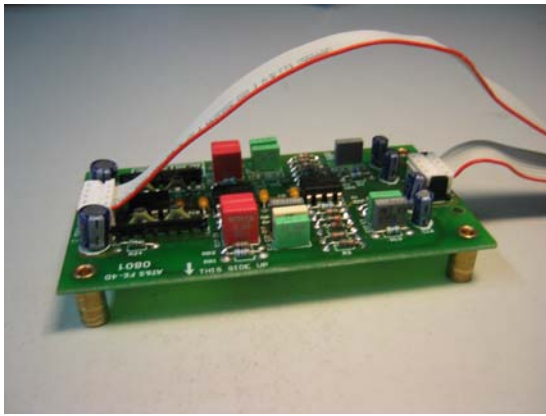

Bild1
- 2 Connect the longer flat wire cable to connector CN1 and the shorter to CN2 (figure 1). Tip: Mark the cable ends (e.g. CN1 and CN2) using a pen.